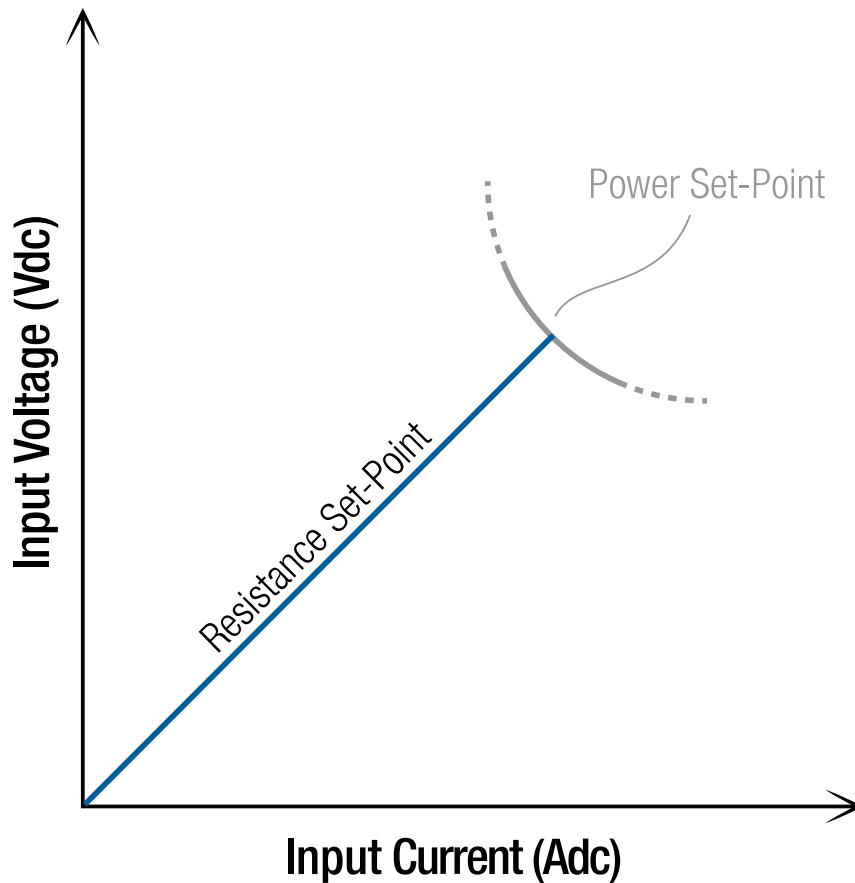

Fig. 4.7 Simplified Resistance Mode Operation Diagram. Refer to fig-operating-profile for operating profile constraints.
When Resistance Mode is selected, the MagnaLOAD electronic load will preference **Constant Resistance (CR)** regulation state over all other regulation states. The MagnaLOAD electronic load will operate in constant resistance regulation within the set-point boundaries indicated in grey in Fig. 4.7. If the connected DC source drives the DC bus to one of the bounding set-point limits, the MagnaLOAD electronic load will auto-crossover to the appropriate regulation state. To avoid auto-crossover, the bounding set-point limits should be set sufficiently high to increase the constant resistance operating range. Programming a current set-point and voltage set-point is disabled in Resistance Mode as the two regulation states conflict with the resistance regulation state. trip-point-settings for voltage, current, and power can also be used to shutdown the MagnaLOAD electronic load when a maximum desired limit is reached.